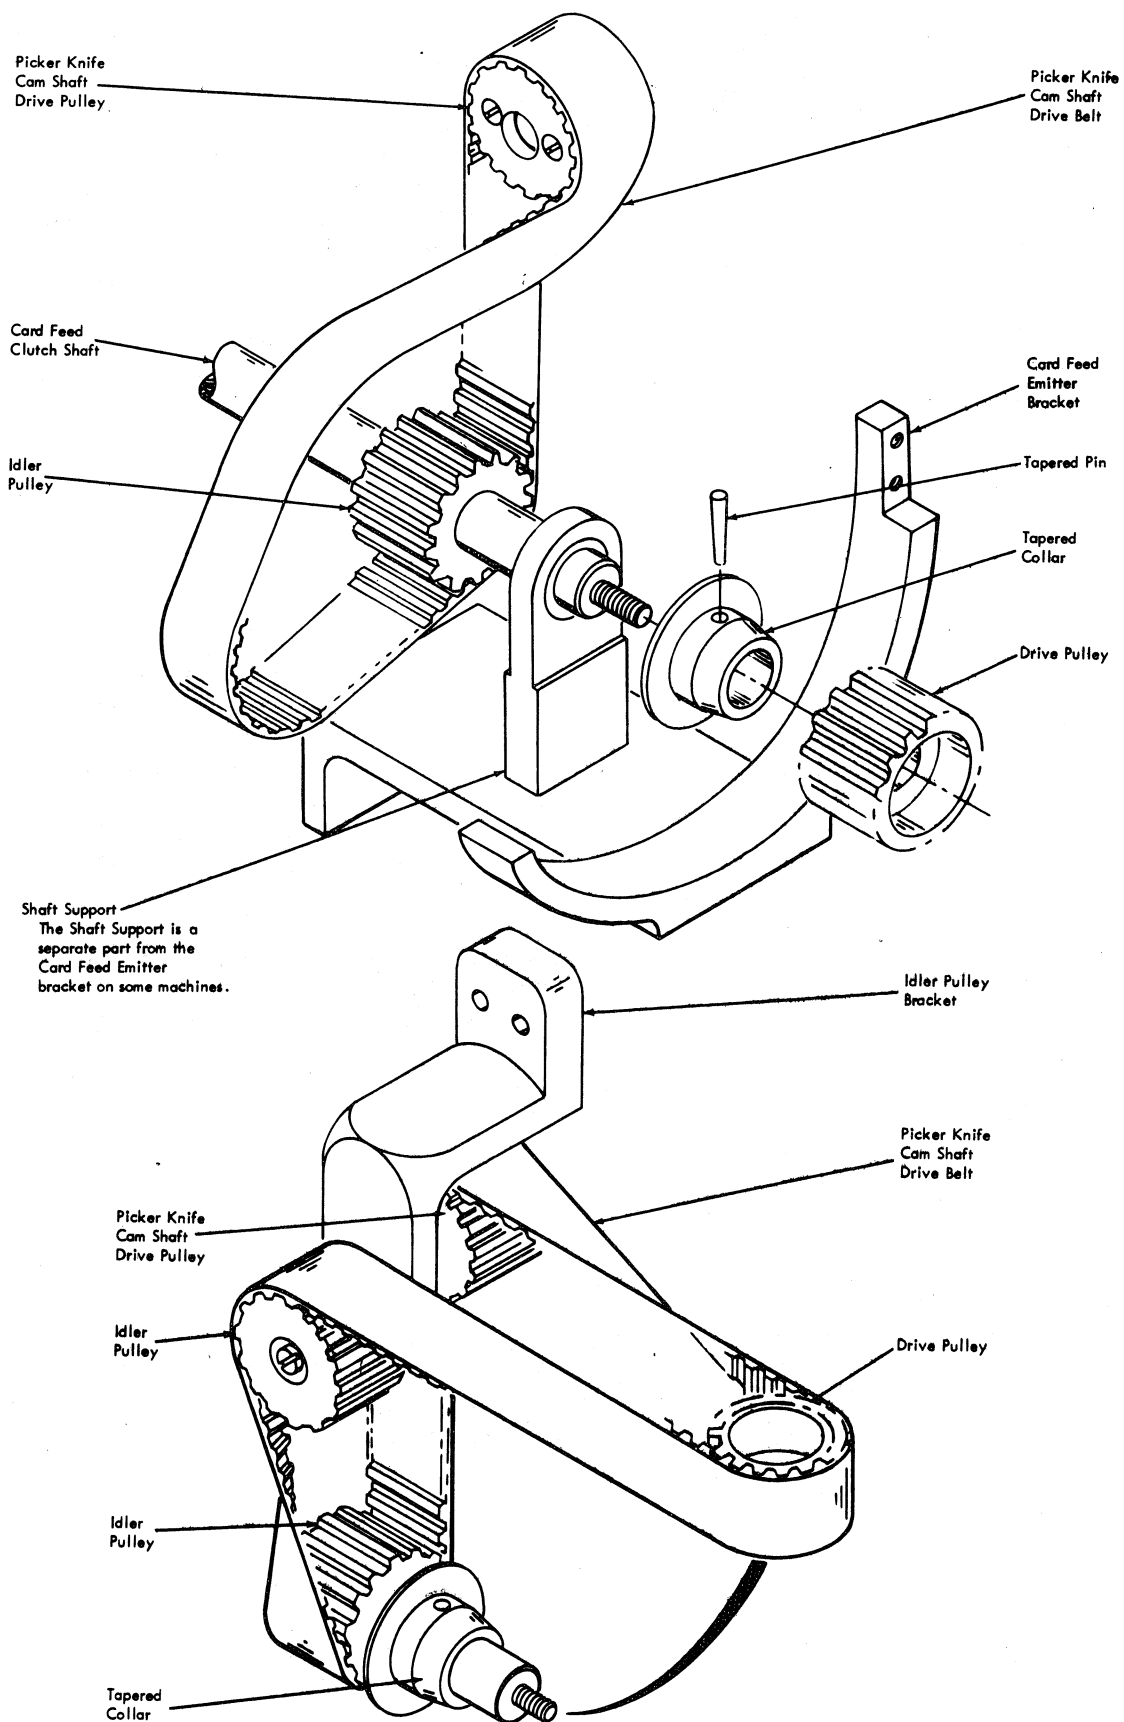

Figure 4-2. Pickerknife Camshaft Drive Belt Installation
The following removal procedure applies to machines with a solid CF emitter bracket and shaft support (Figure 4-2).
The following replacement procedure applies to machines with a solid CF emitter bracket and shaft support (Figure 4-2).
The following removal procedure applies to machines with a removable shaft support (Figure 4-2).
The following replacement procedure applies to machines with a removable shaft support (Figure 4-2).
8. Steps 8, 9, 10, and 11 apply to machines with belt driven pickerknives. In order to have the pickerknife camshaft drive belt in the proper position after the emitter bracket is installed, move the belt to the left to captivate the CF shaft. See Figure 4-2.
11. Loop pickerknife camshaft belt over CF shaft idler pulley and belt idler pulley. With the lugs engaged in the two idler pulleys, install the picker camshaft drive pulley (taper end first) and belt onto CF shaft. See Figure 4-2. Install CF index and hand-tighten retaining nut.